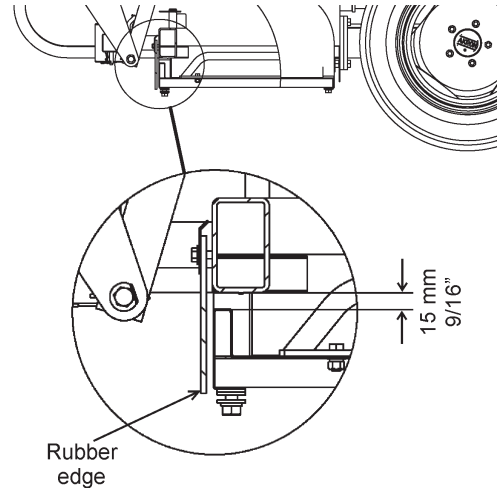

Figure 15 - Grain retainer rubber
10) Using the cranks again, tighten the tray-supporting cable until the tray is at some 10 cm (4") from the ground, parallel to the lower part of the silo tunnel. When adjusting the tray height, its lower part should coincide with the lower edge of the rubber that prevents grain returning. This way a 15 mm (9/16") clearance is set between the lower part of the tunnel and the tray, which allows the grain bag folds to be released smoothly and at the same time prevents the grain from returning to the tray, i.e. from falling outside the grain bag. Figure 15 and the additional detail explain this.